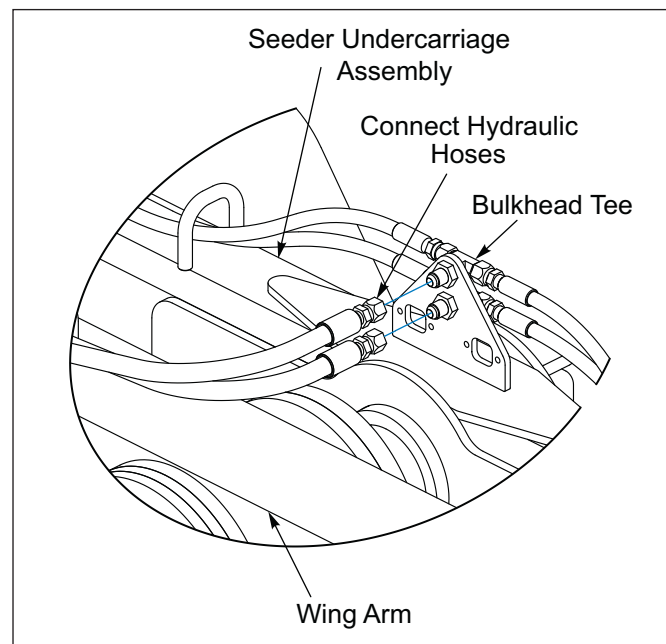

Figure 2-1: Wing Hydraulic Connection
7. Connect the Left and Right Hand Wing Hydraulic Hoses to the Bulkhead Tee. **See Figure 2-1.**